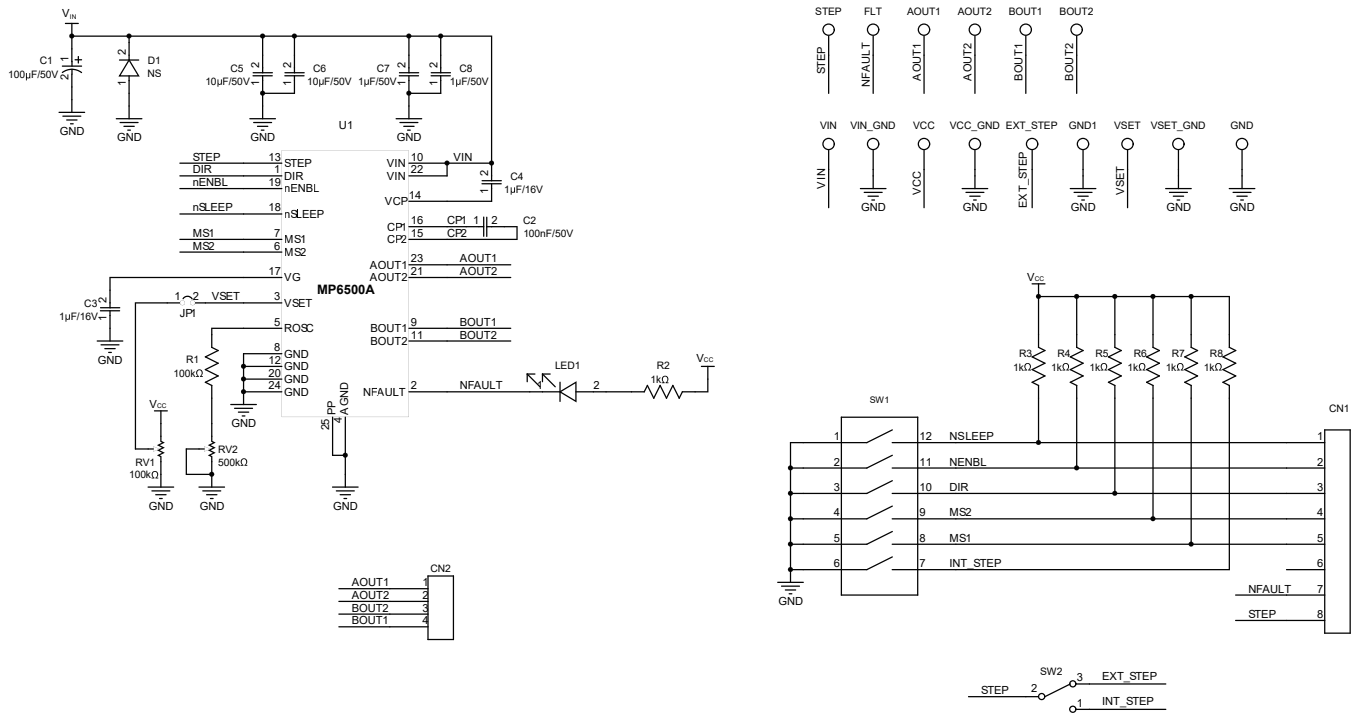

Figure 1: Evaluation Board Schematic
3. Switch SW2 to the top side (Terminal 3 in Figure 1 on page 3) to enable the external step signal input from the EXT\_STEP connector.